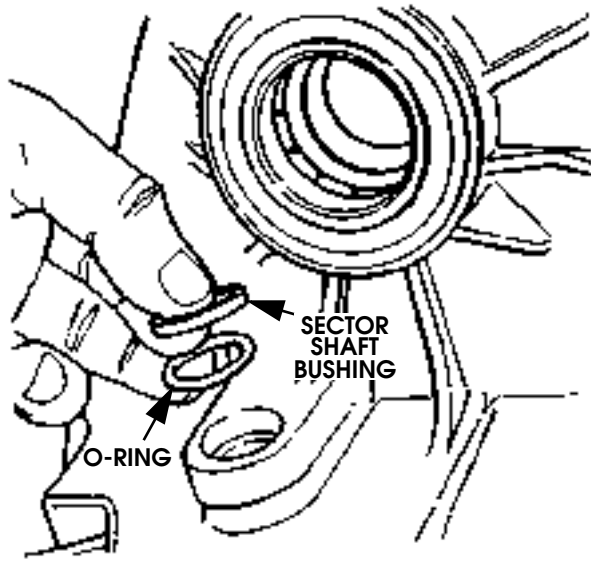

Figure 5-105: Sector Shaft Bushing and O-Ring Removal
28. Remove shift sector shaft bushing and O-ring (Figure 5-105).